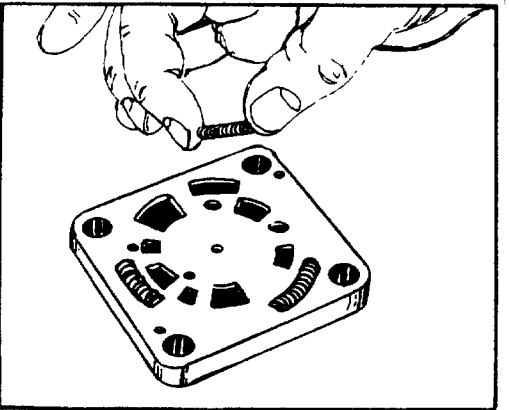

FIGURE 85.
- 36. Place port manifold (8), valve side up on a clean surface. Install three 3/4 inch (19 mm) springs (9) into the spring pockets. See figure 85.